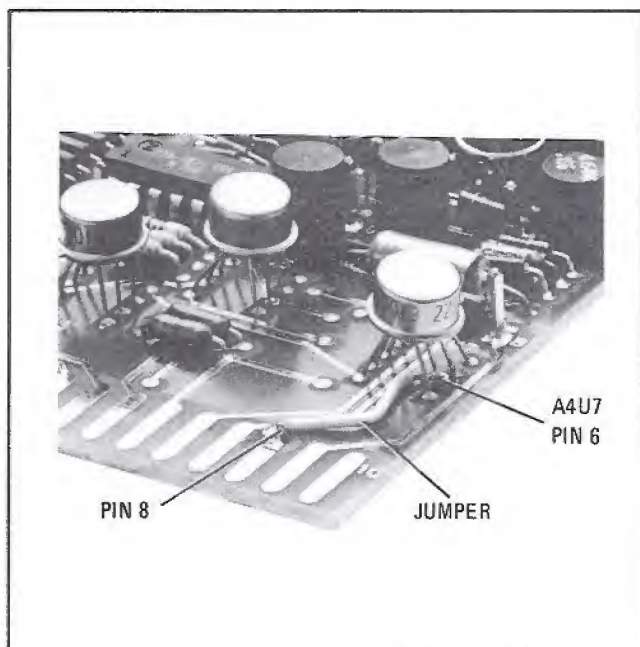

Figure A-1. Modified A4 Board
3. Connect an insulated 3 inch jumper wire between A4U7 pin 6 and pin 8 on the A4 board connector. Refer to Figure A-1.